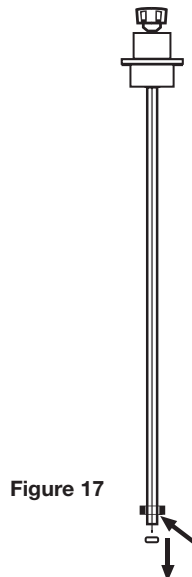

Figure 17
7. Remove O-ring below pump housing stability wing (see Figure 17).